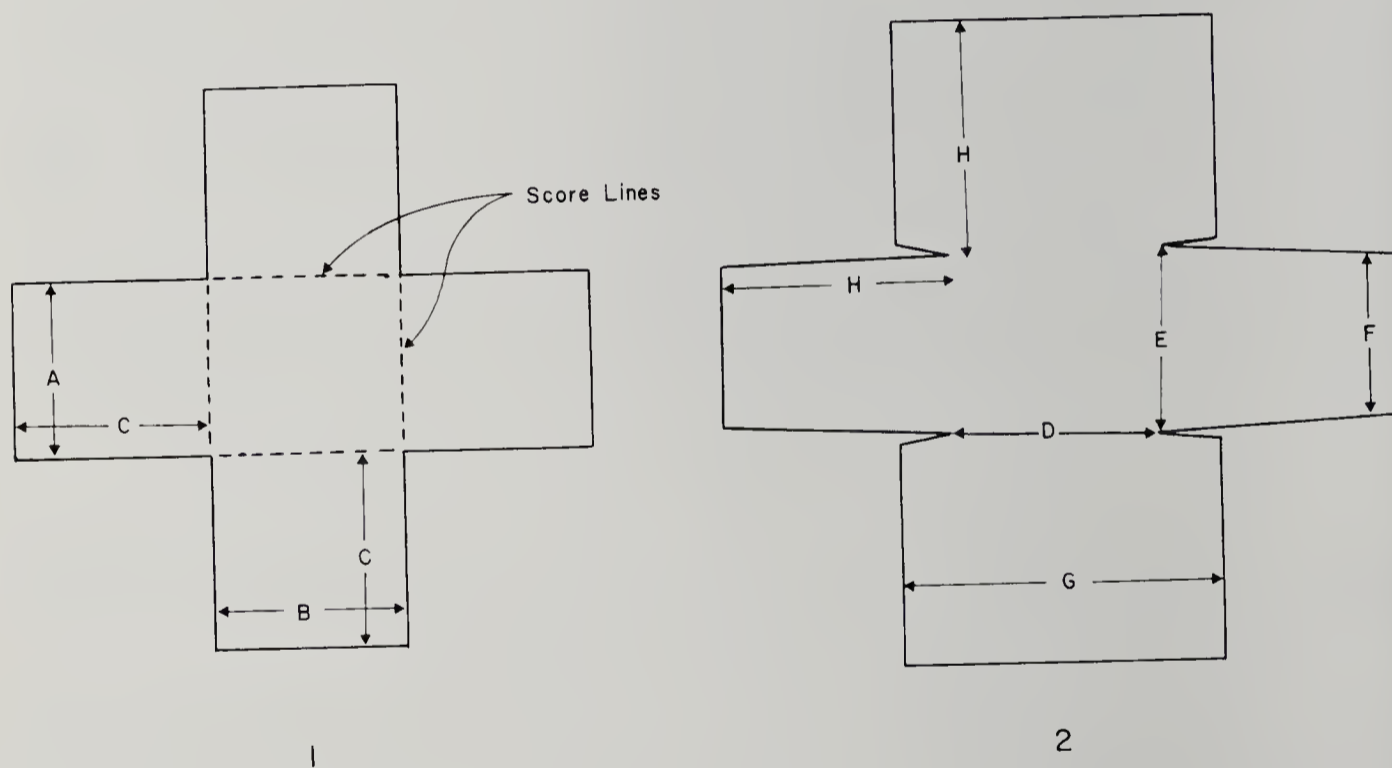

Fig. 1) Outline of chipboard box; 2) Outline of cover paper (dimensions given in table).
1. Score half way through the box at fold lines (Fig. 1).